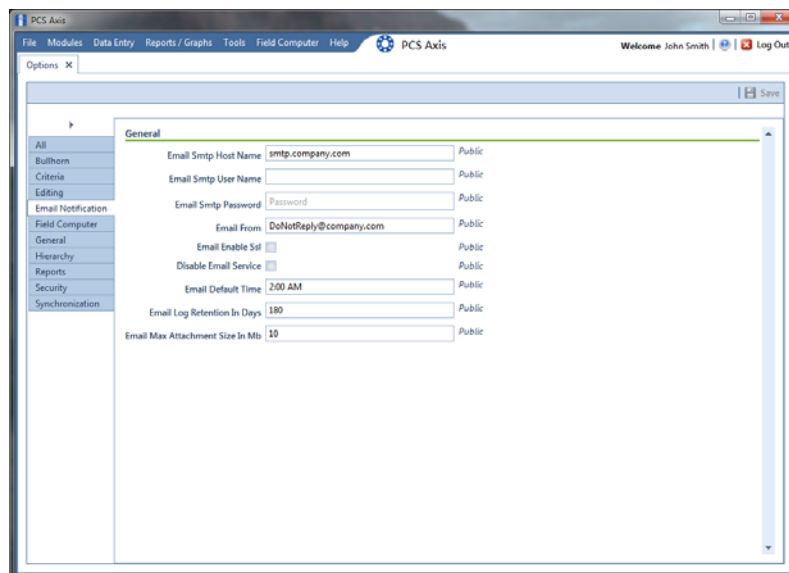

Figure 3-9. Email Notification Options
- 1 If the *Options* window is not open, click **Tools > Options** to open the window. Then click the **Email Notification** tab (Figure 3-9).